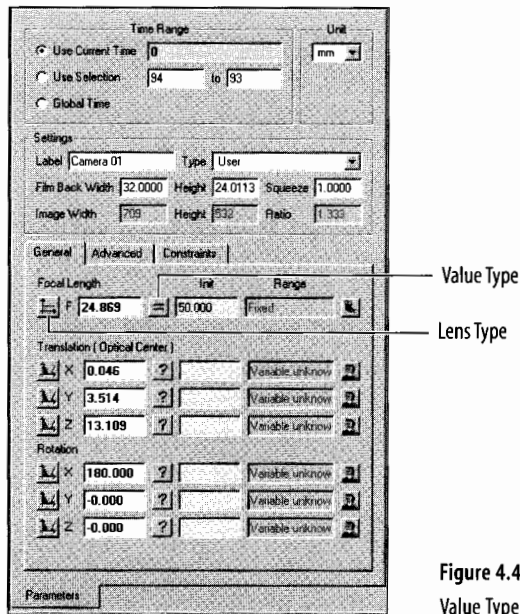

Figure 4.4 The camera parameters. The Lens Type and Value Type buttons allow you to set the lens parameters.
1. It's always a good idea to check your camera settings before you begin calibration. To do this, click the plus sign on the Cameras folder in the Project View on the left side of the interface, then click again on the Camera. This opens up the Properties Window for the camera on the right (Figure 4.4).